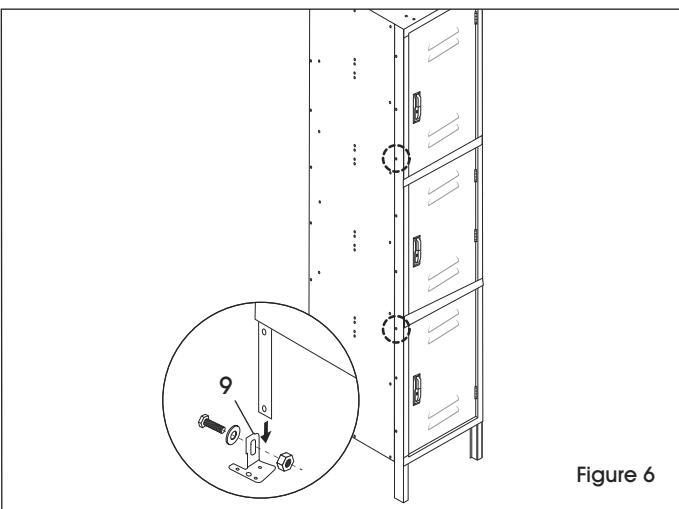

Figure 6
8. With two people, being careful not to put all the weight on the rear legs, stand unit upright and place in desired location. Check and tighten all permanent bolts. (See Figure 6)
1. If joining a unit beside another unit, temporarily install a bolt and nut into the third and sixth holes down from the top of the outer frame(s) that will be joined to the adjacent locker frame(s). (See Figure 6)
2. Use supplied leveling feet and hardware (9) to level the unit. (See Figure 6)